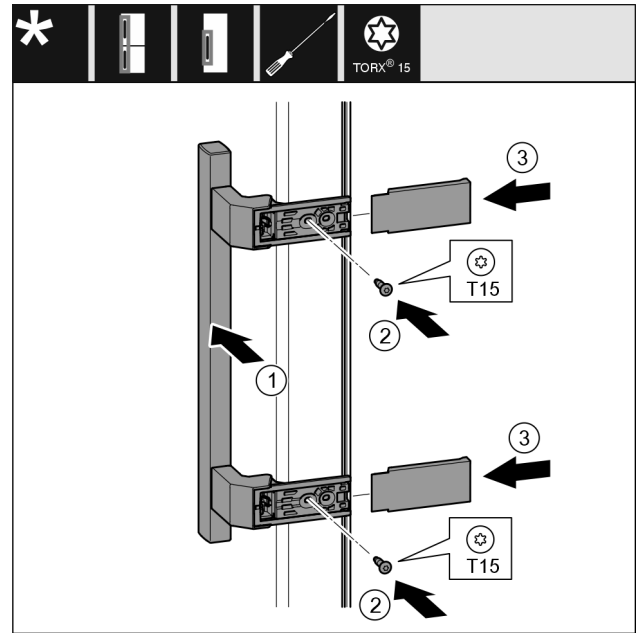

Fig. 38
- ▶ Attach the handle on Fig. 38 (1) the opposite side.
- ▶ Tighten the screws Fig. 38 (2) with the screwdriver.
- ▶ Attach the covers Fig. 38 (3) on the sides and slide them on.